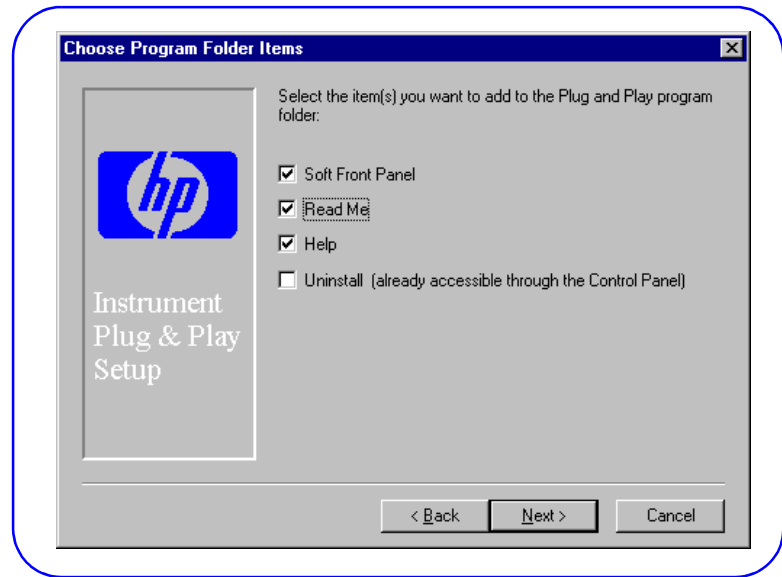

Figure 23. Choose Program Folder Items Screen
- 7** When the **Choose Program Folder Items** screen appears (see Figure 23), check the *Soft Front Panel*, *Read Me* and *Help* entries. Then, click *Next*. Follow the instructions to load the driver(s).